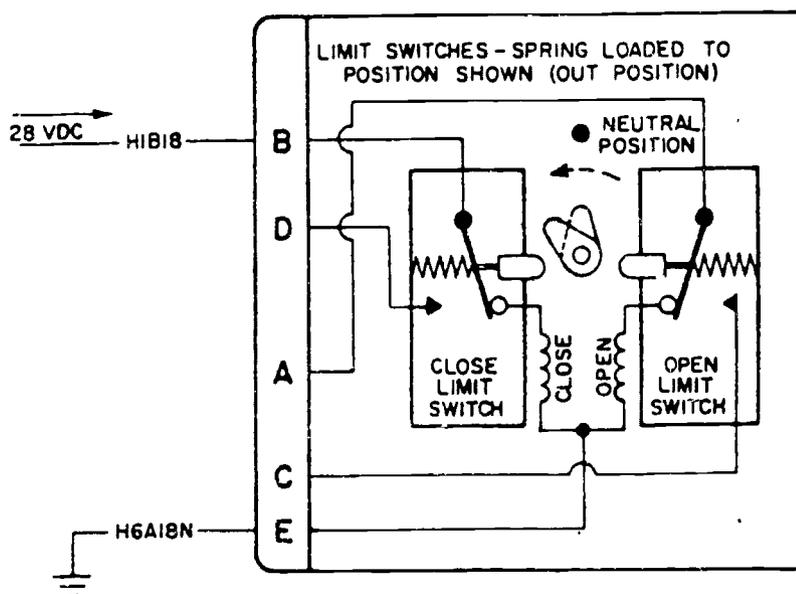

Figure 6.
2. Refer to figure 6 and locate wire H1B18. If we were to send a 28V DC potential to point B of the motor, power would be impressed across the "Close" armature winding of the motor to ground. Remember, when the armature is energized, the armature will start rotating the valve shaft, turning the cam lobe. As the "cam" lobe leaves the neutral position (by the arrow) note that it is turning toward the close limit switch. Dotted lines indicate the previous position of the cam lobe. Only the wiring that is necessary for this explanation is shown.